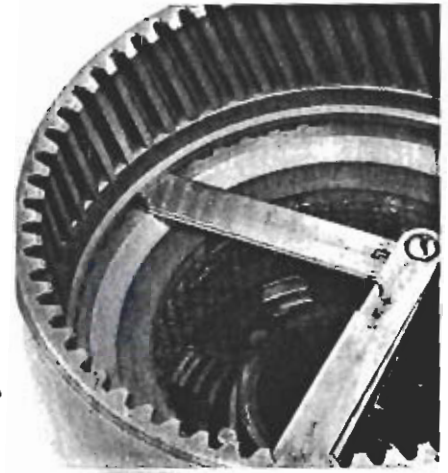

Figure 14 Checking pack clearance
**STEP 18** Clutch assemblies use a selective snap ring which must be selected and installed between the pressure plate and ring gear web. Position clutch and ring gear on a bench with external teeth of ring gear resting on bench. Place a 10 pound weight on pressure plate to maintain load on clutch pack while a feeler gage is used to determine the clearance between pressure plate and ring gear web, figure 14.